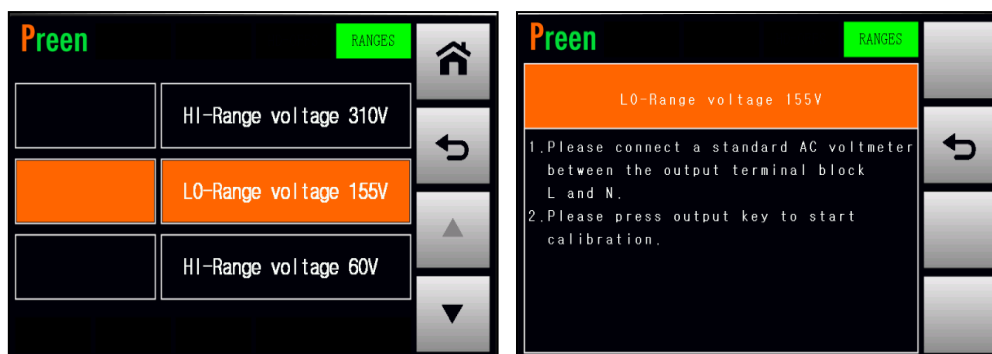

Figure 6.7 Enter the page which calibrates the LO-Range voltage 155V
1. Press the item **LO-Range voltage 155V** repeatedly to enter the page which calibrates the LO-Range voltage 155V (refer to Figure 6.7).